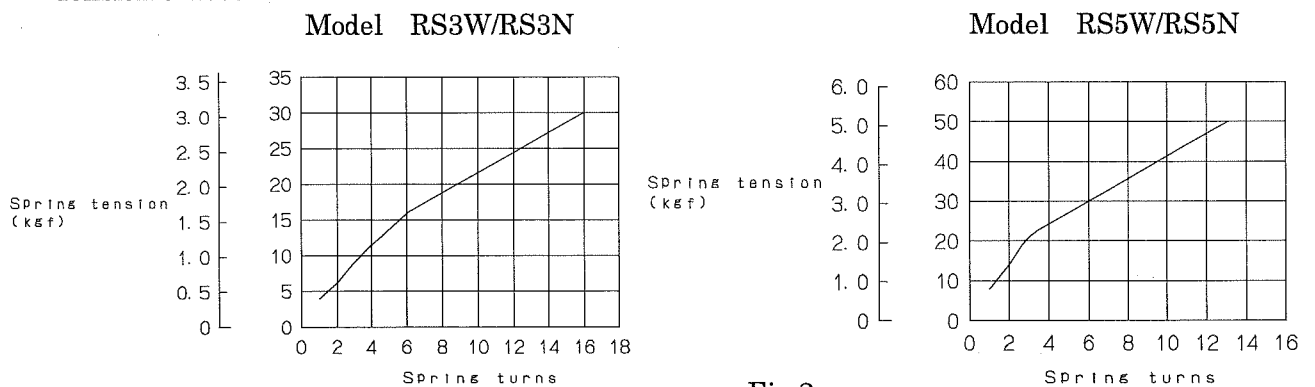

Fig.2
- 3) Refer to graph and adjust tension that load is balanced. (see Fig.2)